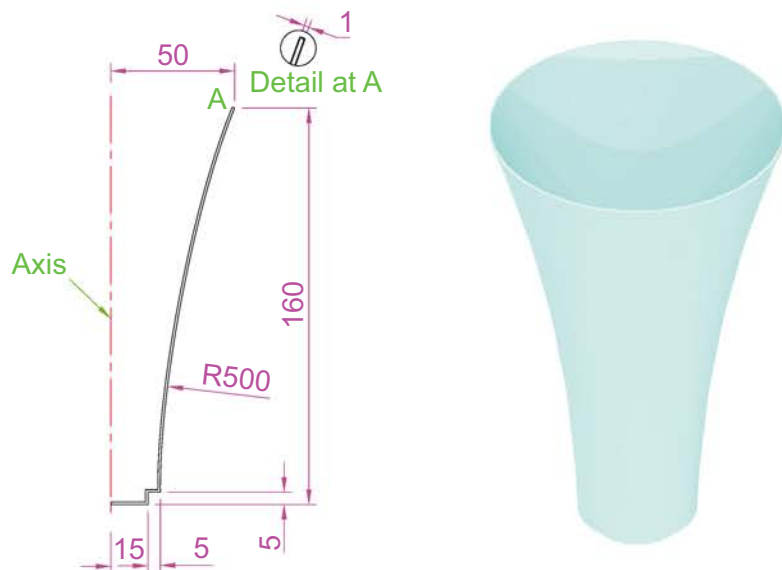

Fig. 19.19 Fourth example – 3D models
FOURTH EXAMPLE (FIG. 19.19)
1. **Front.** Construct the polyline shown in the left-hand drawing of Fig. 19.19.
4. **Isometric.** Render – right-hand drawing of Fig. 19.19.